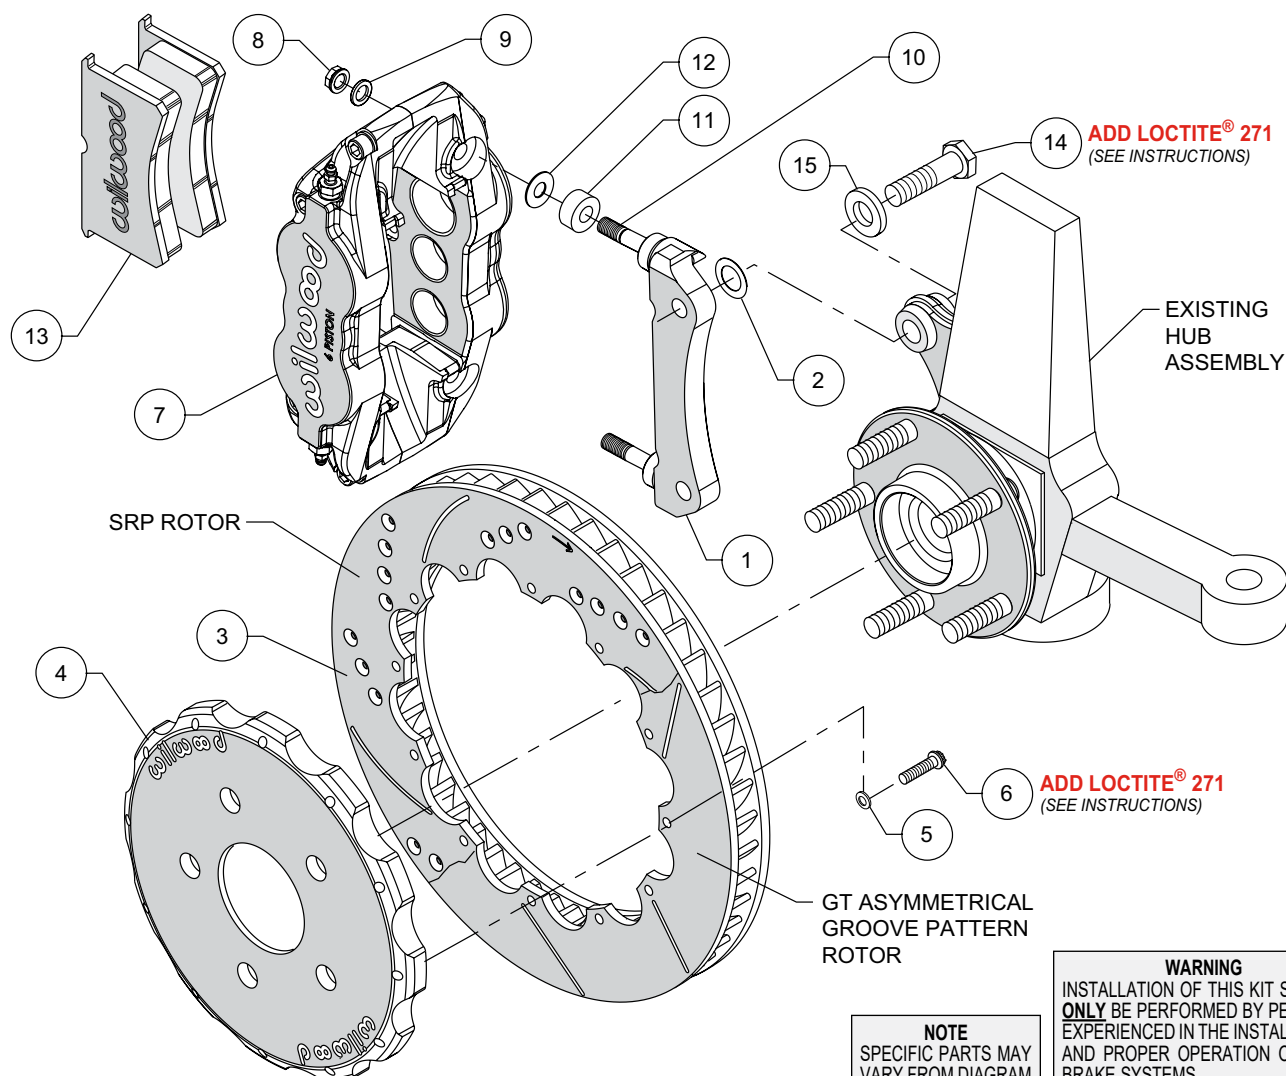
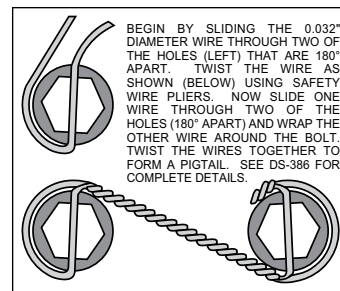

Figure 1. Typical Installation Configuration
Figure 3. Safety Wire Diagram
Assembly Instructions (numbers in parenthesis refer to the parts list and Figure 1 on the preceding pages):
- The caliper mount bracket (1) should initially be installed with clean, dry threads on the mounting bolts. Orient the bracket, as shown in Figure 1 and install using bolts (14) and washers (15). Initially place one .029" thick shim (2) on each bolt between the bracket and upright, Figure 1. Temporarily tighten the mounting bolts. **NOTE:** *The bracket must fit squarely against the mount bosses on the upright.* Inspect for interference from casting irregularities, machining ridges, burrs, etc. Later, after the caliper alignment has been checked, the mount bolts will be secured using red *Loctite*® 271.
- Orient the rotor (3) and the hat (4) as shown in Figure 1 and Photo 1. Attach rotor to hat using bolts (6) and washers (5). Apply red *Loctite*® 271 to the bolt threads and torque to 155 in-lb using a criss-cross pattern. For an added measure of security, the bolts may be safety wired using standard 0.032 inch diameter stainless steel safety wire as shown in Figure 3. Refer to Wilwood's data sheet DS-386 (available at www.wilwood.com/Pdf/DataSheets/ds386.pdf) for complete safety wire installation instructions.
- **NOTE:** *This kit contains distinct right and left hand calipers that must be mounted in a specific direction, as described below.* Initially place one .035" thick shim (12), and spacer (11) on each stud (10) as shown in Figure 1 and Photo 2. Mount the caliper (7) onto the bracket (1) using lock nuts (8) and washers (9), Figure 1. Ensure that the caliper is mounted so that the largest pistons are at the rotor exit end of the caliper, in relation to the direction of rotor rotation. Temporarily tighten the lock nuts and view the rotor through the top opening of the caliper. The rotor should be centered in the caliper, Photo 3. If not, adjust by adding or subtracting shims (2) between the bracket and the upright. Always use the same amount of shims on each of the two mounting bolts. Once the caliper alignment is correct, remove the bracket mounting bolts (14) one at a time, apply red *Loctite*® 271 to the threads, and torque to 77 ft-lb.